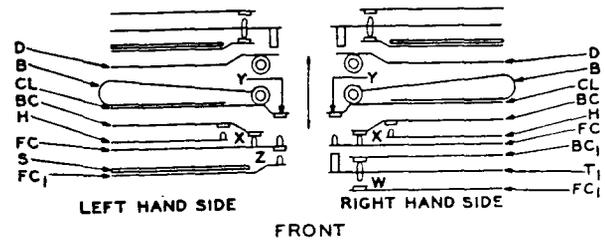

Fig. 3 — 319 Type Key Spring Arrangement
1.22 *Contact Separation* — .012" (Readj. .015") except contacts at "Y" Fig. 3, approximately .030".
Exception: Fig. 3 — Approximately 225 grams at contact "X" with lever normal.
1.26 *Contact Sequence*—Fig. 3—.005" (Readj. .006") between make of "Y" and break of "X," between break of "X" and make of "Z" and between make of "W" and make of "Z" contacts, lever toward locking position. Also, be-
1.28 *Non-Click* — Fig. 3 — Lever release from operated position shall not open normally closed contacts of opposite side or "X" contacts of same side.